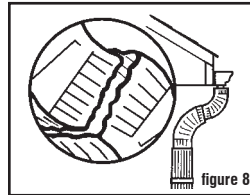

figure 8
Attaching downspout elbows. Each elbow (2) or (3) and downspout section has one end crimped smaller than the other. Fit the smaller end of one section down into the larger end of the next section and press the sections snugly together (figure 8).